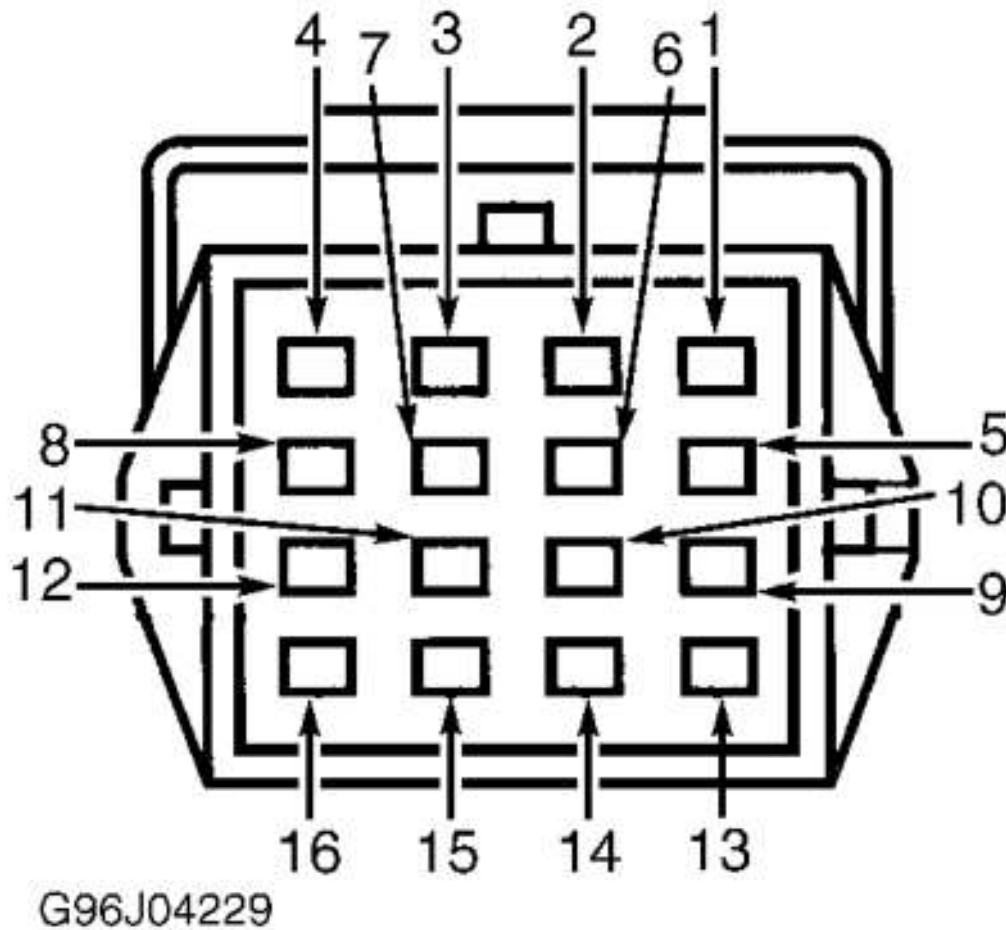

Fig. 4: Identifying Transmission Harness Connector
(1) Applies to 1997 models.
(2) Applies to 1998 models.
- Electrical Signal Test Using DVOM, connect positive lead to transmission wiring harness connector terminal No. 1. See **Fig. 4**. Connect DVOM negative lead to each shift solenoid and TCC connector terminal. See TRANSMISSION CONNECTOR TERMINAL IDENTIFICATION table. With scan tool in Trans-Bench Mode, turn each solenoid on and off. Monitor DVOM and listen for solenoid state to change. If voltage and solenoid state changes, go to next step. If voltage or solenoid state does not change, check for open or short in wiring harness or connectors between PCM and transmission.
4. Check Signal Circuit Remove transmission fluid pan. Check transmission wiring harness and connectors for damage or poor connection. Using DVOM, measure voltage between transmission wiring connector terminal No. 4 and ground. See **Fig. 4**. If voltage exists, go to next step. If voltage does not exist, check for open or short in transmission wiring harness. If wiring is okay, check for problem with PCM. See appropriate TESTS W/CODES article in ENGINE PERFORMANCE section.
5. Check Resistance Of TFT Sensor Disconnect transmission wiring connector. Using DVOM, measure resistance between transmission connector terminals No. 4 and No. 8. See **Fig. 4**. Compare resistance and temperature with specifications. See TFT SENSOR RESISTANCE SPECIFICATIONS table. If resistance is not as specified, replace TFT sensor (with wiring). If resistance is as specified, diagnose problem by symptom. See SYMPTOM DIAGNOSIS.